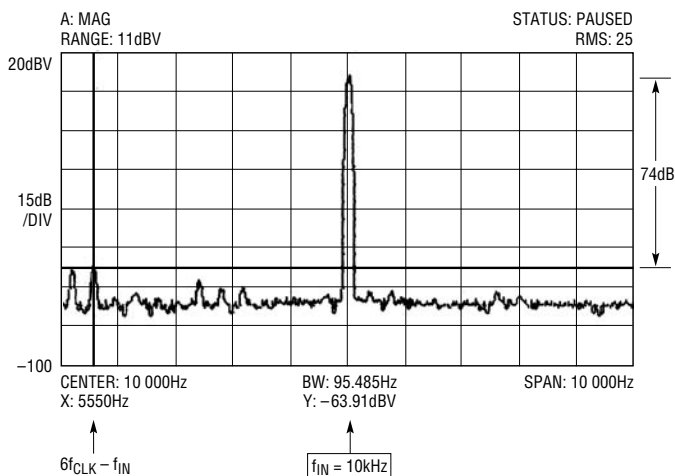

Figure 5b. Same as Figure 5a, but the AC Input Signal is 900mV, 10kHz
3. The number of alias signals increases when the input signal frequency increases (Figure 5b).
4. When the frequency, f_{IN} , of the input signal is less than f_{CLOCK} , the alias signal(s) amplitude(s) directly scale with the amplitude of the incoming signal. The output “signal to alias ratio” cannot be increased by just boosting the input signal amplitude. However, when the input AC signal frequency well exceeds the clock frequency, the amplitude of the alias signals does not directly scale with the input amplitude. The “signal to alias ratio” increases when the output swings closely to the rails. (See Figure 5b and Figure 7.) It is important to note that the LTC1051/LTC1053 op amps, under light loads ($R_L \geq 10k$), swing closely to the supply rails without generating harmonic distortion (Figure 8).